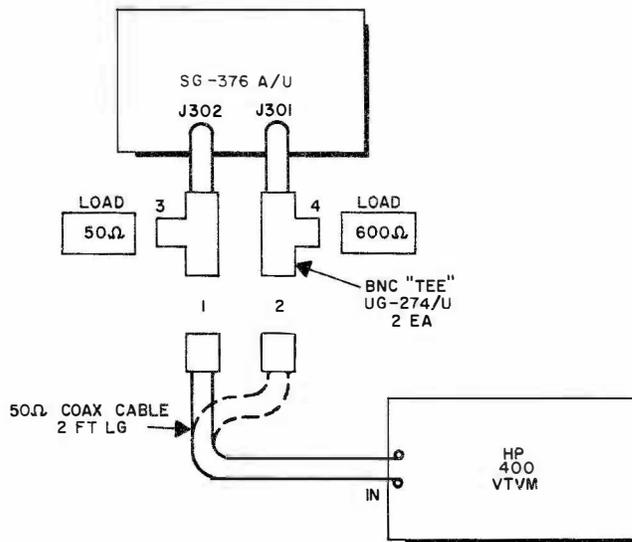

Figure 5-3. Set-up for Output Impedance Test, Connection Diagram
(3) OUTPUT IMPEDANCE. - Refer to Para. 3.4.6 and 3.6.9 of MIL-G-23532 (Ships) and perform the following tests with the equipments connected as shown in figure 5-3.